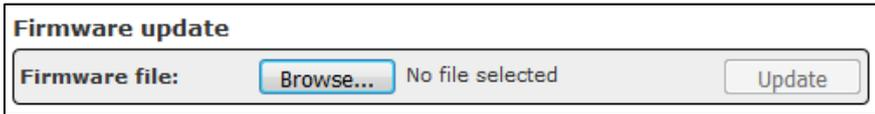

Fig. 65: Global System Settings - Firmware update
2. Click the Browse button in the **Firmware update** field (see Fig. 65). The "Open file" dialog of your system software will be displayed.